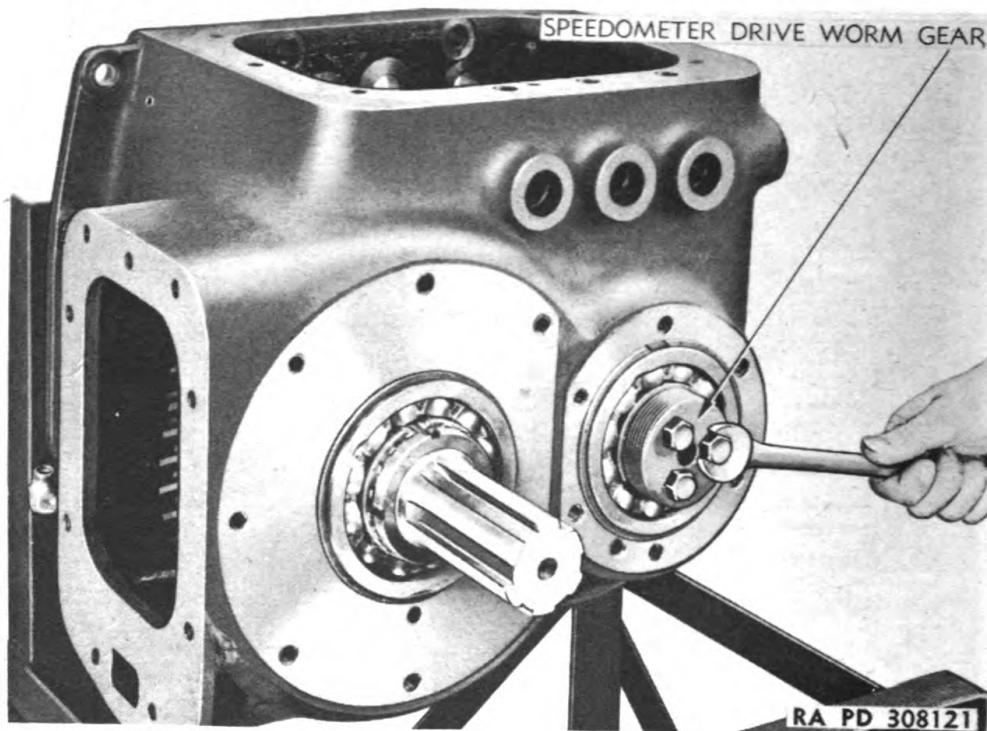
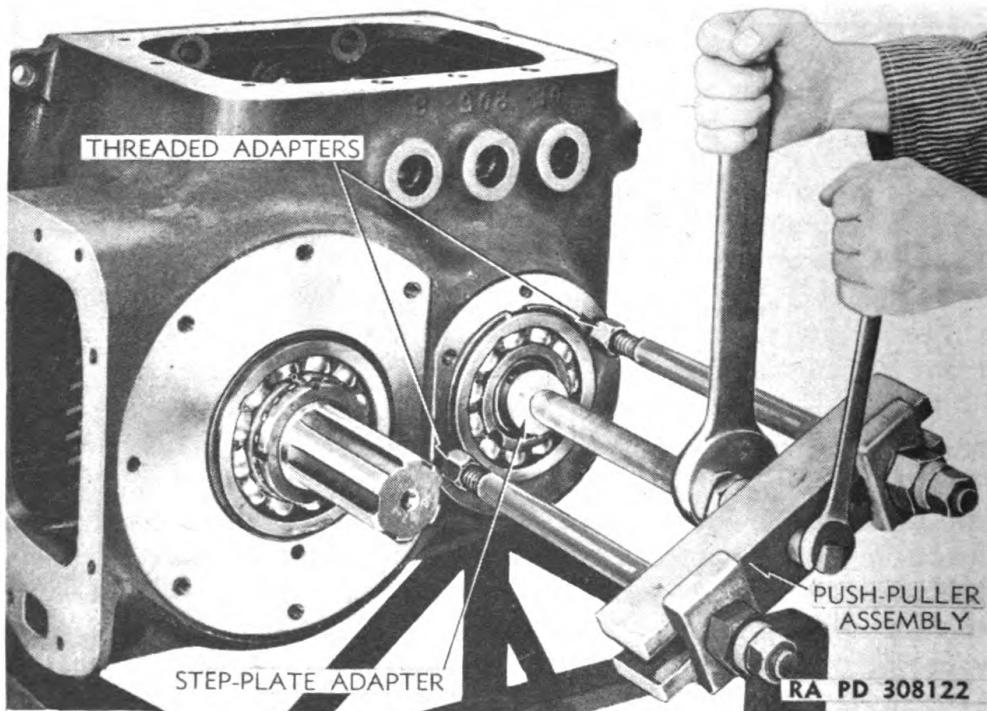
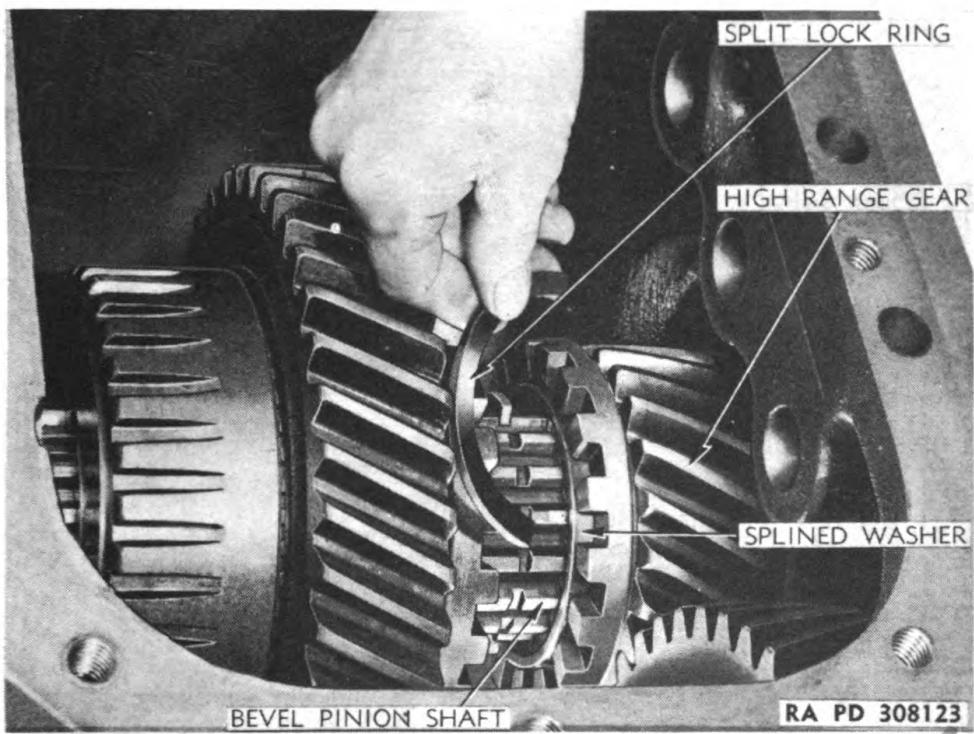

Figure 21 – Removing Speedometer Drive Worm Gear
Figure 22 – Pressing Pinion Shaft Out of Housing, Using Puller (41-P-2905-60)
Figure 23 – Removing Pinion Shaft Snap Ring
b. **Remove Bevel Pinion Shaft and Gears.** Cut lock wire and remove the three cap screws from speedometer drive worm gear (fig. 21). Slip gear from end of shaft. Using puller (41-P-2905-60) mounted as shown in figure 22, press on bevel pinion shaft until it has been moved approximately three-fourths inch. Reach inside case and slide high range gear against rear of case. Slide splined washer toward high range gear. This will free a split lock ring so it can be removed from shaft (fig. 23). Push bevel pinion shaft nearly out of rear bearing hole in case. Slide range shifter gear into mesh with high range gear, then slide both against rear of case. Install the special remover and replacer (41-R-2378-59) under snap ring